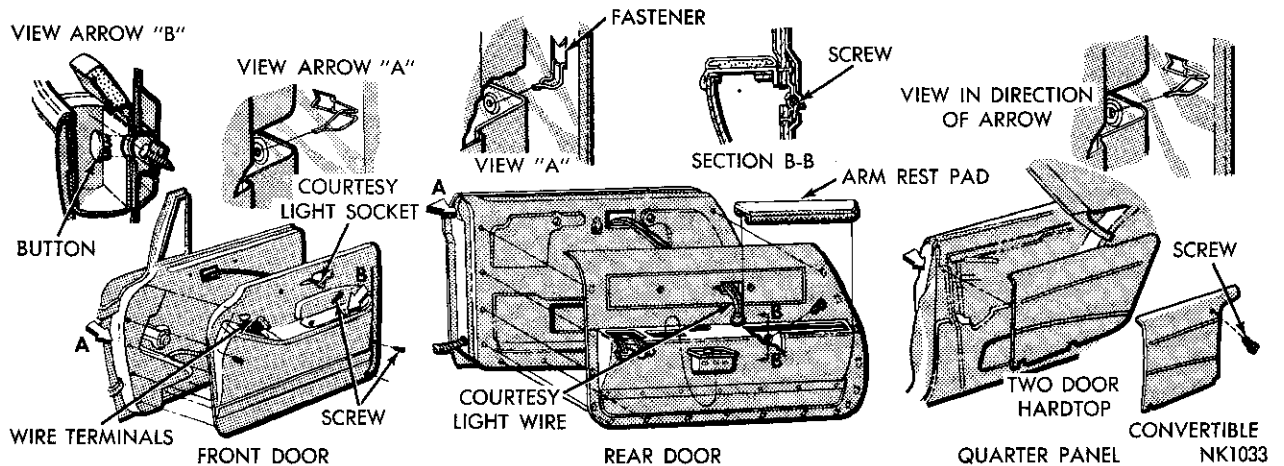

Fig. 13—Door and Quarter Trim Panels (Imperial)
- (1) Remove the inside handle and arm rests.
- (2) Remove the screws attaching the trim panel (Figs. 13, 14 and 15) to the door inner panel.
- (3) Insert a wide blade screwdriver between the trim panel and the door frame next to the retaining clips and snap out the retaining clips around the edge of the trim panel. Remove the trim panel from the door.
- (4) Before installing the door trim panel, inspect the condition of the watershield cemented to the door frame and make certain it is properly positioned.
- (5) Be certain the escutcheon springs are placed on the regulator and Remote control shafts.
- (6) Align the trim panel retaining clips with the holes of the door frame and bump into place with the heel of the hand.
- (7) Install the trim panel to door panel screws.
- (8) Install the escutcheon washer, handles and arm rest.
To remove the quarter window trim panel (Fig. 13) it is first necessary to remove the rear seat cushion and back. The quarter window trim panels are retained with screws and clips. When installing the trim panel, make certain the watershield is properly cemented and positioned.